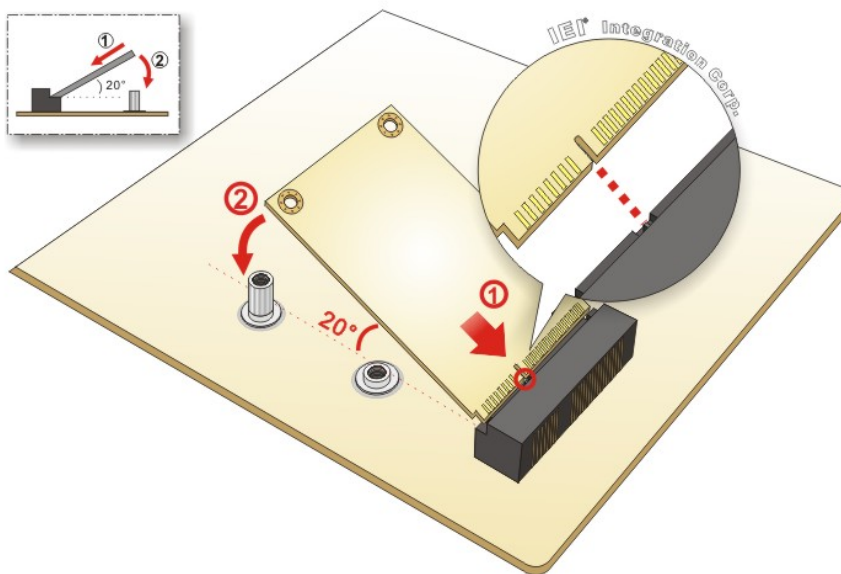

Figure 4-3: Inserting the Full-size PCIe Mini Card into the Slot at an Angle
Step 3: Insert into the socket at an angle. Line up the notch on the card with the notch on the slot. Slide the PCIe Mini card into the socket at an angle of about 20° (**Figure 4-3**).